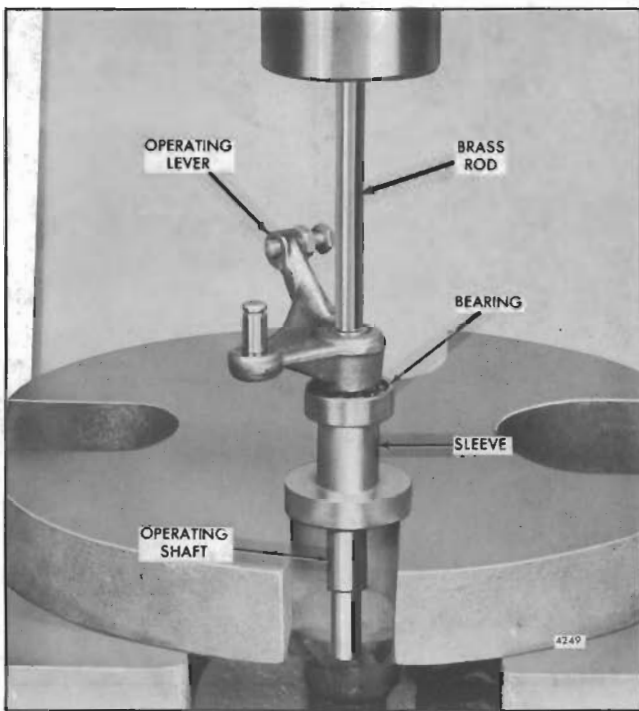

Fig. 15 - Removing Operating Lever and Upper Bearing from Operating Shaft
- k. Support the operating shaft, lever, bearing and sleeve on a large washer or plate, with a 5/8" hole, on the bed of an arbor press as shown in Fig. 15. Place a small brass rod on the end of the shaft and under the ram of the press. Then press the operating shaft out of the operating lever and bearing. Catch the shaft by hand when pressed from the lever and bearing to prevent it from falling and being damaged.